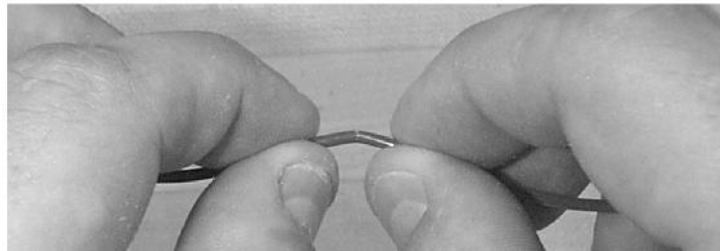

Figure 12 - Flex and separate the tube at the score mark
4.13 Grasp the tube on both sides of the score mark and gently flex to separate the tube (Figure 12).